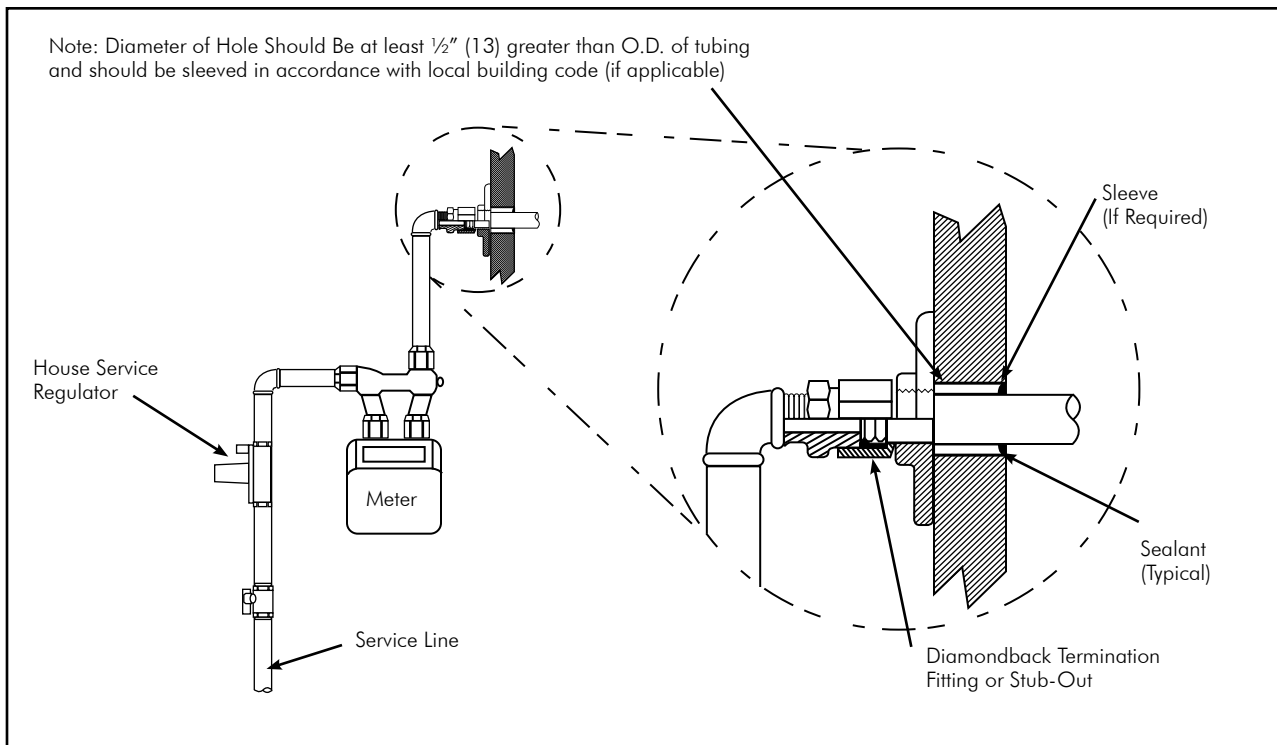

FIG. 4-17 Meter Connection for Pipe Supported Meter
- Meters which depend on the service and house piping for support shall not be directly connected outdoors with Diamondback. As shown in **FIG 4-17 & 4-18**, steel pipe shall be used to connect the meter outlet to the Outdoor Termination Fitting or Stub-Put on the exterior wall of the structure or to a transition from pipe to Diamondback located inside the structure.